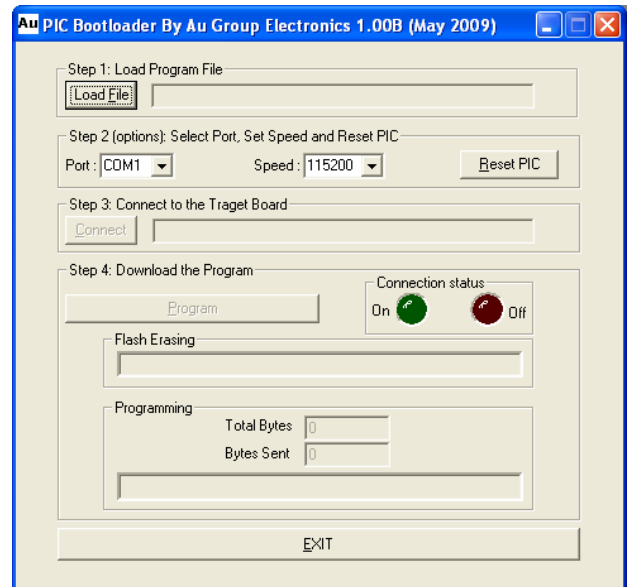

Figure C-9
- Au PIC18 Bootloader is launched, as shown in Figure C-9